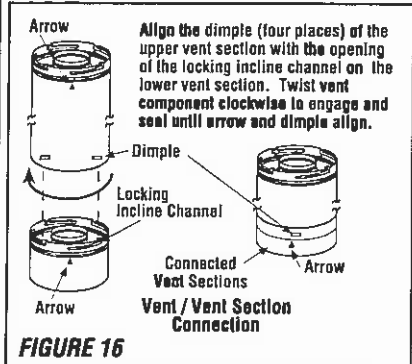

FIGURE 16
C. Attach vent components to each other - Other vent sections may be added to the previously installed section in accordance with the requirements of the vertical vent figures and tables. To add another vent component to a length of vent run, align the dimpled end over the inclined channel end of the previously installed section, adjusting the radial alignment until the four locking dimples are aligned with the inlets of the four incline channels of the previous section. Push the vent component against the previous section until it fully engages, then twist the component clockwise running the dimples down and along the incline channels until they seat at the end of the channels. This seating position is indicated by the alignment of the arrow and dimple as shown in **Figure 16**.